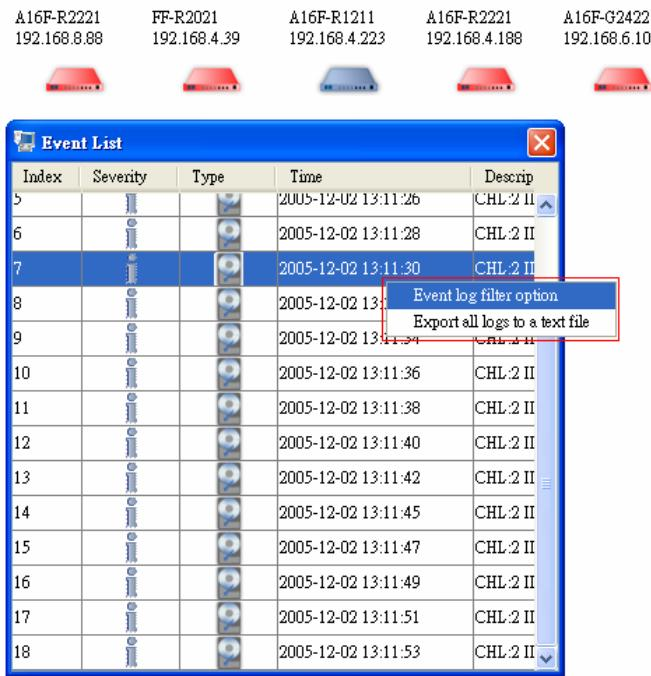

Figure 14-8: Event List Options
2. Right-clicking the system icon will also provide you with two (2) options - filtering the event log and exporting the event log to a text file. (See **Figure 14-8**)